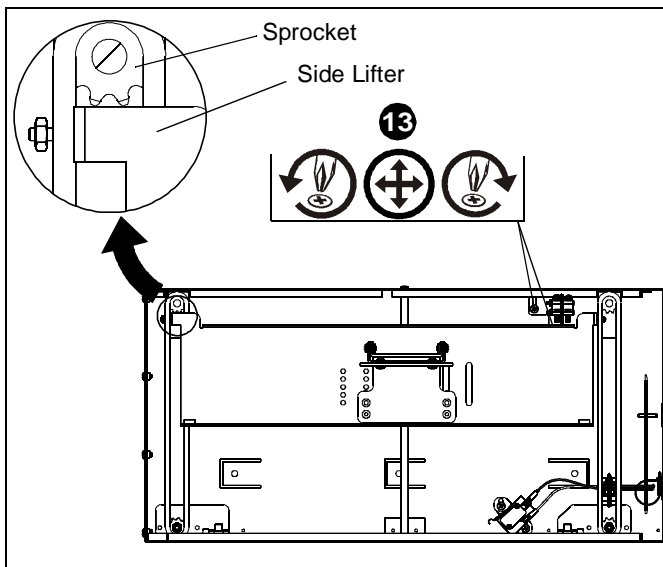

Figure 4
- Inspect the SL151 to see if the side lifter ALMOST touches sprocket. If not, repeat Step 13 until the side lifter ALMOST touches the sprocket (See Figure 4)